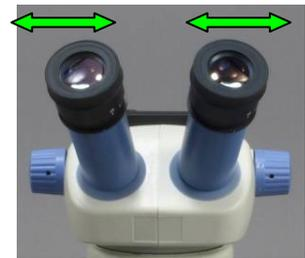

Fig. 1
2.4 Adjusting Interpupillary distance (Fig.1)